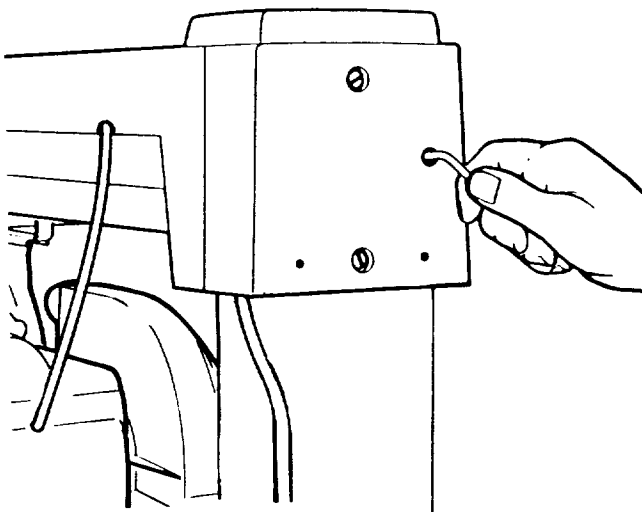

Fig. 161 - Location of Hex Socket Cap Screw
2. With a 3/16 inch hex-L wrench, find the 1/4-20 hex socket cap screw through the hole in the rear of the *arm cover*. To tighten, turn the wrench clockwise approximately 1/4 turn. (Figure 161)